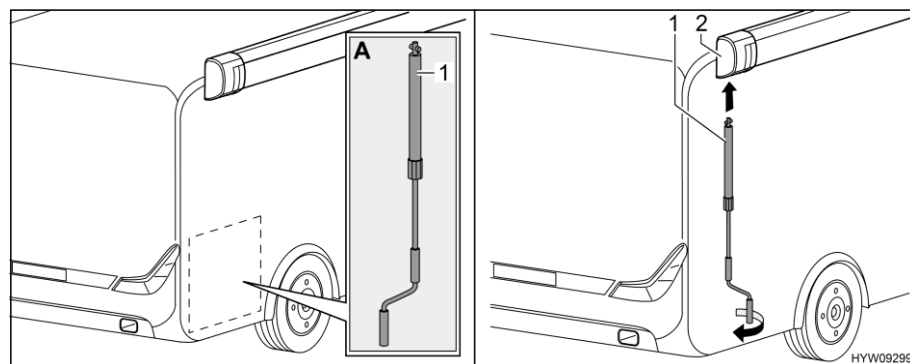

Fig. 49 Installing crank
- Take crank (Fig. 49,1) out of the rear garage (Fig. 49,A).
- Insert crank into bayonet socket (Fig. 49,2) of the awning.